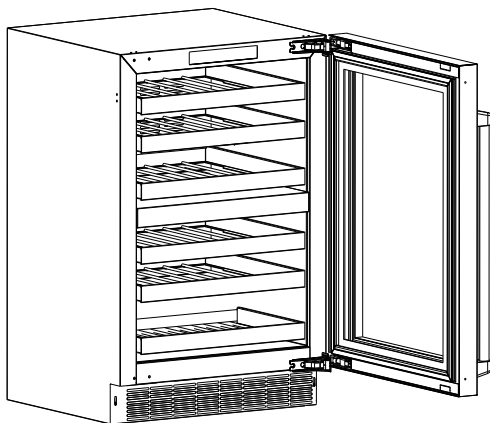
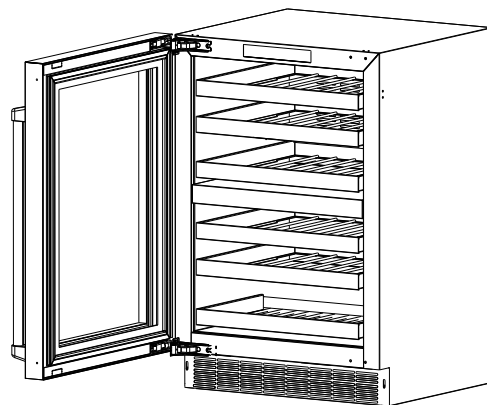

Figure 1
Figure 2
This appliance has the capability of the doors opening from either the left or right side. The unit is delivered to you with the doors opening from the left side (Figure 1). Should you desire to reverse the opening direction (Figure 2), follow the instructions below. **NOTE:** A second person is recommended with this task due to the weight of the door.
- Figure 1 is a side view of the unit, showing how the panel (in gray) fits over the panel-ready door. A panel depth of no more than $\frac{3}{4}$ " (19 mm) is recommended.
- Figure 2 shows a front view of a custom panel; follow these precise specifications when cutting/fabricating the panel to perfectly align with the panel-ready door.